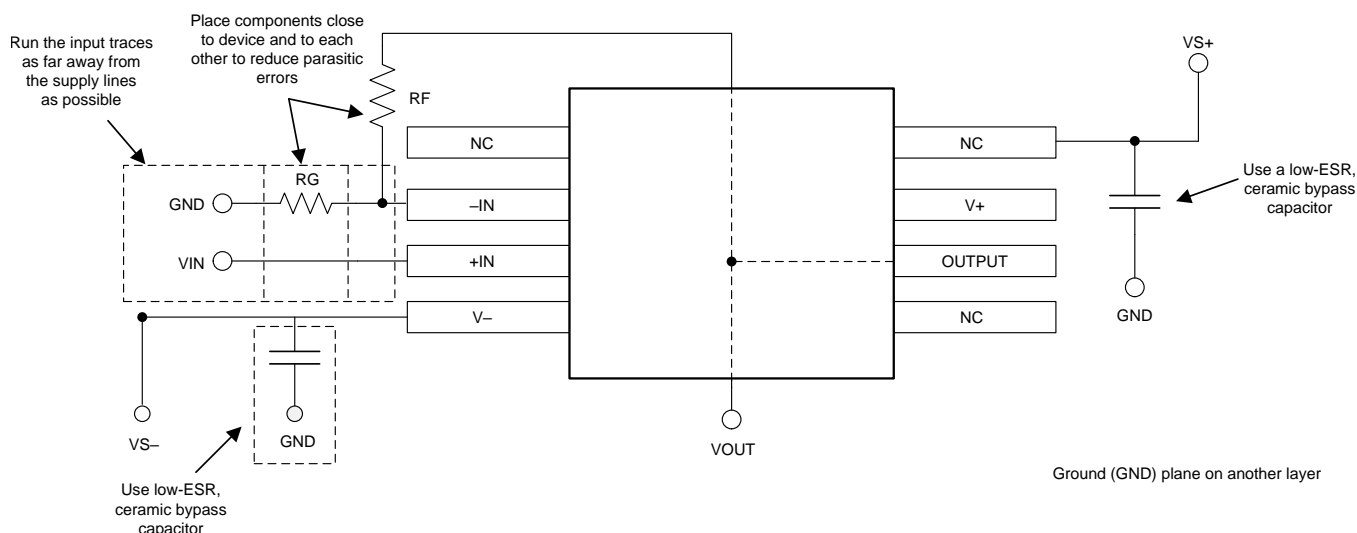

Figure 42. Operational Amplifier Board Layout for Noninverting Configuration
- Place the external components as close to the device as possible. As illustrated in Figure 42, keeping RF and RG close to the inverting input minimizes parasitic capacitance.